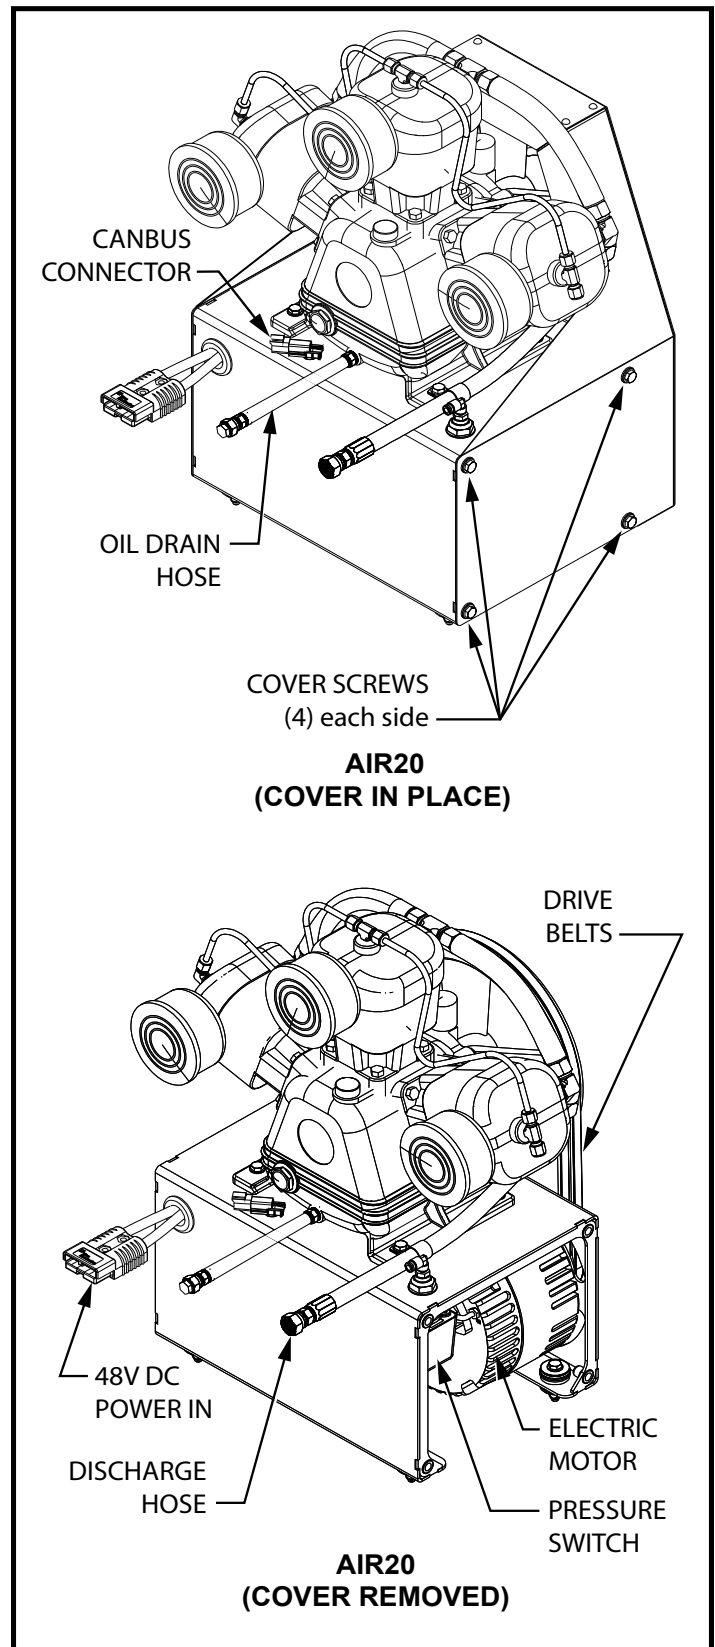

Figure 1-5
3. Remove all eight (8) screws (4 per side) from both sides and slide cover/safety guard off. (See Figure 1-5)
4. Locate the pressure switch. The pressure switch is mounted beneath the base on the right hand corner. (See Figure 1-5)